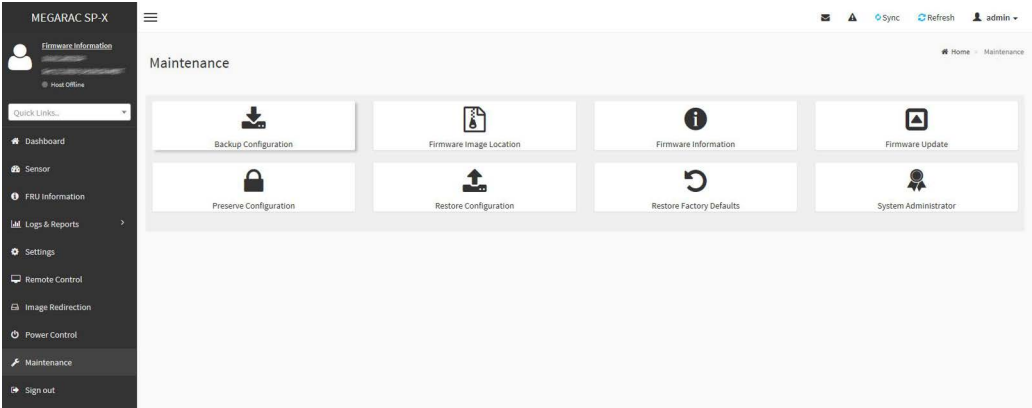

Figure 5.18 Maintenance menu options
12. Select **Maintenance** to access options to back up the current configuration, identify the firmware image location, view firmware information, and update the current firmware version. The user may also restore configuration settings and obtain access to the password change functionality. Maintenance options are displayed in Figure 5.18.